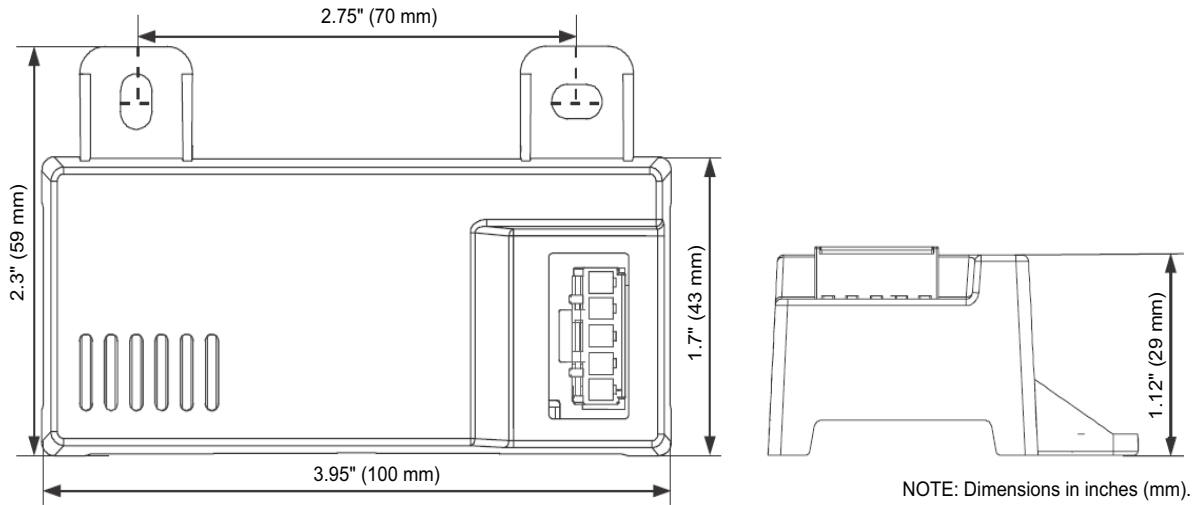
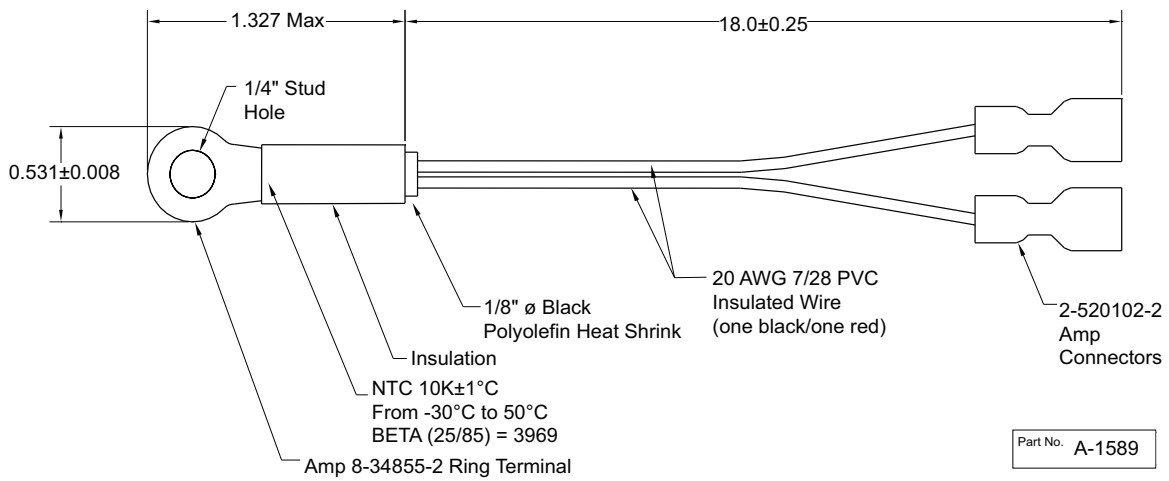
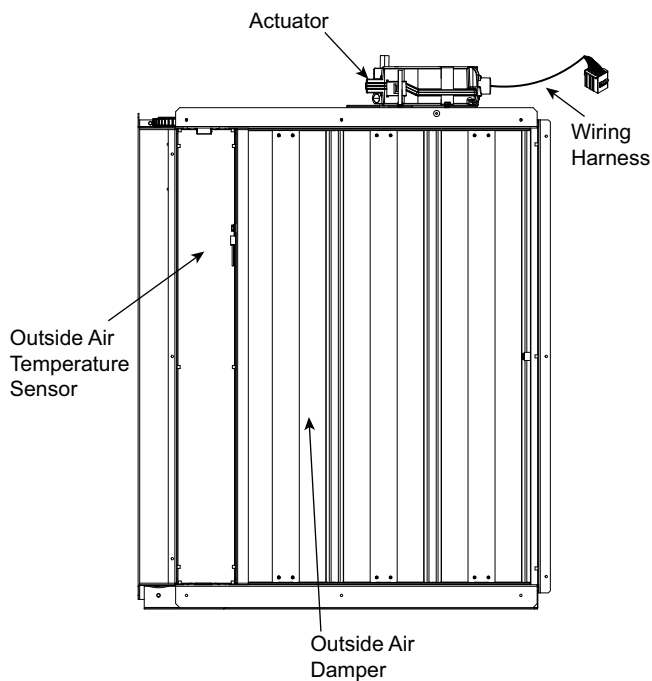

Fig. 73 – HH57LW001 Dimensional, Connection and Switching Information
Fig. 74 – HH79NZ039 Dry Bulb and Mixed Air Sensor Wiring
Fig. 75 – EconomizerONE Component Locations (CRECOMZR108A00 Shown)
When using the HH57LW001 enthalpy sensor (see Fig. 73) for outside air changeover, the existing HH79NZ039 dry bulb sensor (see Fig. 74) must be removed. The enthalpy sensor will be mounted in the same location as the dry bulb sensor (see Fig. 75). When the enthalpy sensor's OA (Outside Air) temperature, enthalpy, and dew point are below their respective setpoints, the outside air can be used for free cooling. When any of these are above the setpoint, free cooling will not be available. Enthalpy setpoints are configurable and create an enthalpy boundary according to the user's input. For additional details, see Fig. 76-77 and Table 27.
The optional enthalpy control sensor (P/N: HH57LW001) communicates with the POL224 economizer controller using the 5-wire harness, 48TC005213. The HH57LW001 sensor can be used as a single outside air enthalpy, a differential return enthalpy, or a differential return temperature sensor. Refer to the base unit control wiring diagrams found earlier in this book to wire the HH57LW001 enthalpy sensor for each option. Use Fig. 73 and Table 29 on page 57 to locate the wiring terminals for each enthalpy control sensor.
Economizers are shipped standard with an HH79NZ039 outside air dry bulb sensor (see Fig. 74). System default setting (high temp limit) is 63°F (17°C) and has a range of 48°F to 80°F (9°C to 27°C). Sensor is factory installed on economizer.
If installing the optional HH57LW001 enthalpy sensor, the HH79NZ039 dry bulb outside air sensor must first be removed. Wire sensor to harness 48TC005213 and the (5) wires from the harness to the EconomizerONE harness in the return air chamber. Harness 48TC005213 has a 5-pin plug that connects directly to the HH57LW001 enthalpy sensor. Refer to the base unit control wiring diagrams earlier in this book for wiring connections. Refer to Fig. 73 and Table 29.